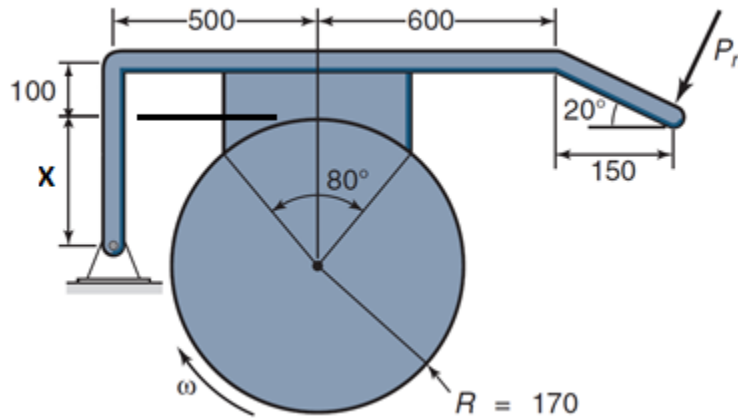

Figure 3
3. The hand brake shown in Figure 3 has a constant average pressure of 600 kPa across the shoe and is 50 mm wide. The wheel runs at 150 rpm and the coefficient of friction is 0.25. Dimensions are in millimeters. Determine the following: